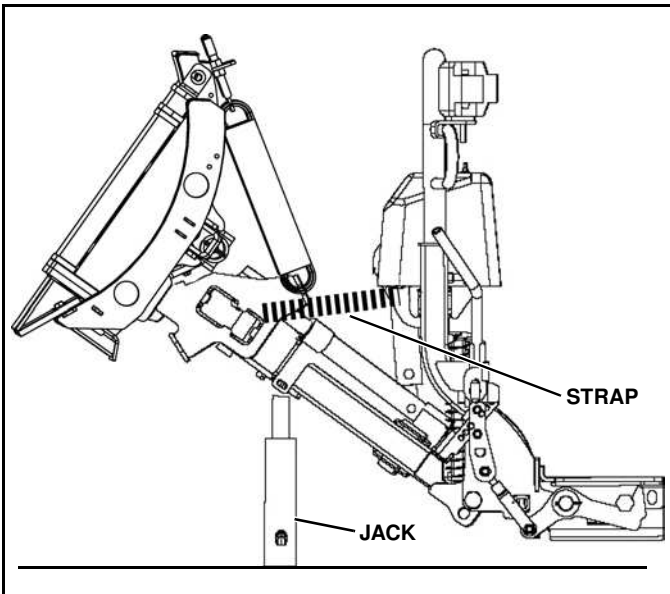

Figure 1-62
1. Set jack under plow. (See Figure 1-62).
2. Release strap and lower jack. (See Figure 1-62).